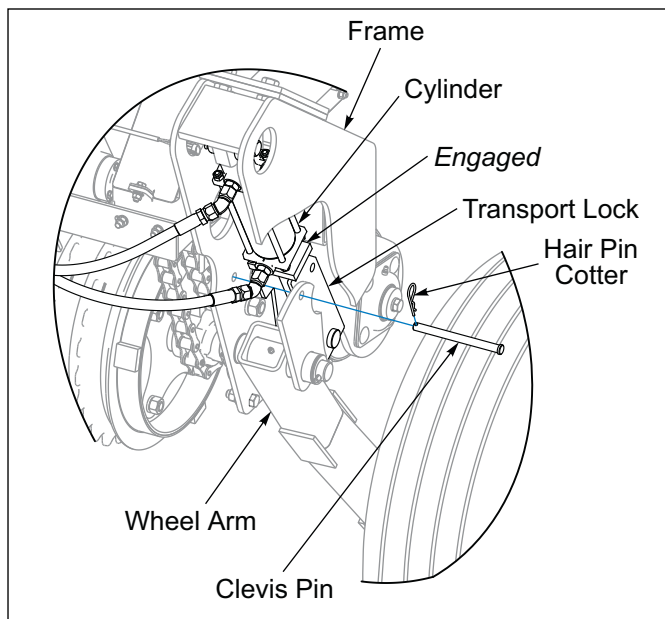

Figure 3-5: Transport Lock Engaged
4. If Transport Locks are not engaged, fully extend the Hydraulic Lift Cylinders and rotate Transport Locks in the engaged position over the Cylinder Rods. Secure with the Clevis Pins and Hairpin Cotter. See Figure 3-5.
2. Raise the Seeder fully to extend the Hydraulic Lift Cylinders and rotate the Transport Locks in the engaged position over the Cylinder Rod. Secure with the Clevis Pins and Hairpin Cotters. **See Figure 3-5.**
3. If not already done, raise Seeder fully to extend the Hydraulic Lift Cylinders and rotate the Transport Locks in the engaged position over the Cylinder Rod. Secure with the Clevis Pins and Hairpin Cotters. **See Figure 3-5.**
1. Raise the Seeder fully to extend the Hydraulic Lift Cylinders and rotate the Transport Locks to the engaged position. Secure with the Clevis Pins and Hairpin Cotters. **See Figure 3-5.**
6. Re-install Transport Locks. **See Figure 3-5.**